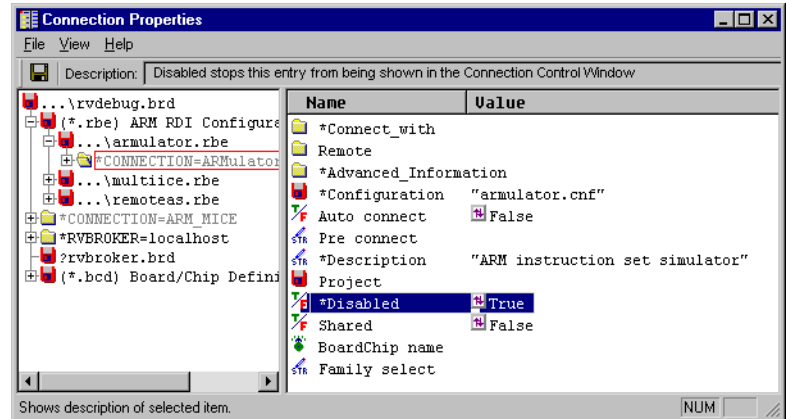

Figure 4-3 Restoring board file entry defaults
2. Click on the CONNECTION=ARMulator entry, in the left pane. It becomes the selected entry and its contents are displayed in the right pane, shown in Figure 4-3 on page 4-5.